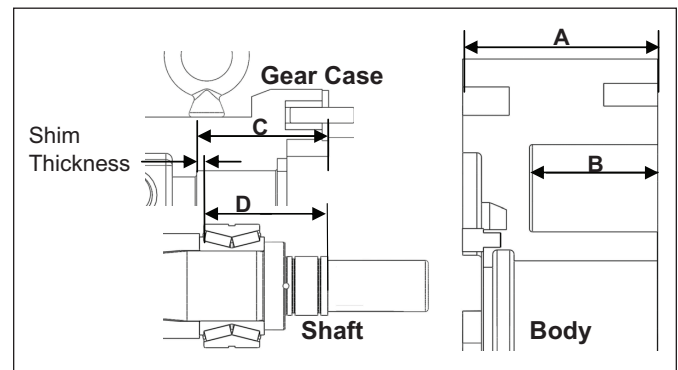

Figure 51. Calculating Shims
- Shims located on the shaft behind the front bearing control the backface clearance of the pump; the space between the body and the rotor. If neither the shafts or bearings are being replaced, use the shims (if properly marked) removed at disassembly and reuse making sure they are installed in the correct bores. If replacing shafts or bearings, a process of calculating the required shims is necessary. Use *Figure 51* and the following equation to calculate. To find the correct backface clearance see *Table 10*, *page 41*.